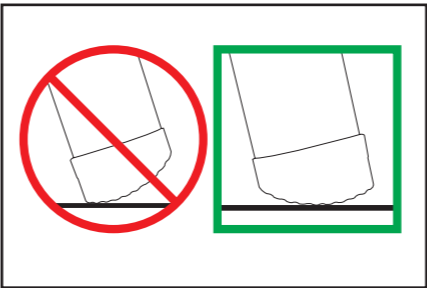

figure 4
- 2.6 Note the slope of the ladder feet and the location of the safety grip wall bumper square pads and then correctly deploy and support the extended ladder forwards and at an angle of 75 degrees to the horizontal (see figures 4 and 5).